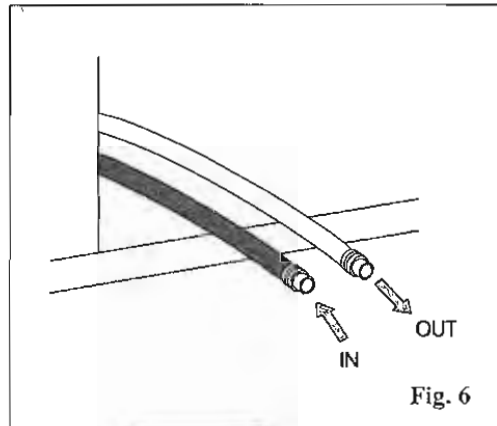

Fig. 6
**WARNING! Please ensure that the taps are open that that the water flows regularly (Fig. 6) before turning on the cabinet.**